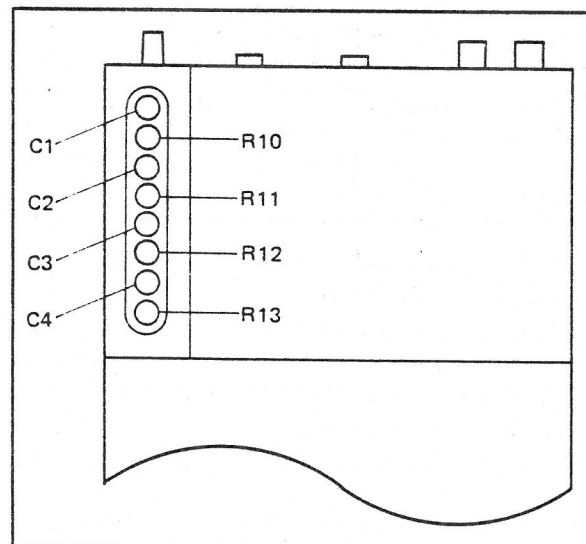

Figure 4-2
Adjust the VOLTAGE DIVIDER (B9402NA) rheostat R10 (See Figure 4-2) so that $-\boxed{b} = \boxed{a}$ where \boxed{a} : the error of the Type 2885 standard (μV). (The absolute full scale value is greater than 1V when the polarity is positive).
- (6) Set the voltage ranges of both the calibration set and the Type 2885 instruments to 150V. Apply 150VAC and 5A AC (frequency 60 Hz, $\cos\phi=1$) to both Type 2885 instruments. Adjust the VOLTAGE DIVIDER (B9402NA) rheostat R11 as per the procedure in (5) above.
- (7) Adjust 100 V and 75 V ranges in the same way. Adjust R12 for 100V, and R13 for 75V.
- (8) Set voltage ranges of both the calibration set and the Type 2885 instruments to 300V. Apply 300-VAC and 5AAC (frequency 400 Hz) to the Type 2885 instruments and set the current phase to 90° while observing the DVM, then adjust C1 (see Figure 4-2) so that $\frac{b}{a} = \frac{b}{a}$.
- (9) Adjust the 150V, 100V and 75V ranges in the same way. Adjust C₂ for 150V, C₃ for 100V, and C₄ for 75V.